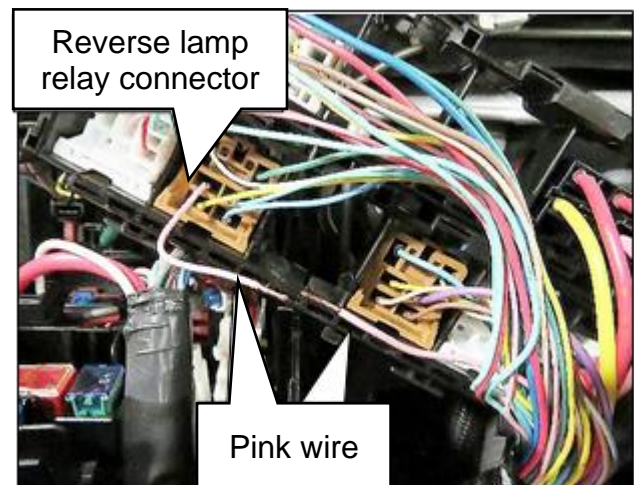

Figure 16
- Approximate location of pink wire cut shown in Figure 16